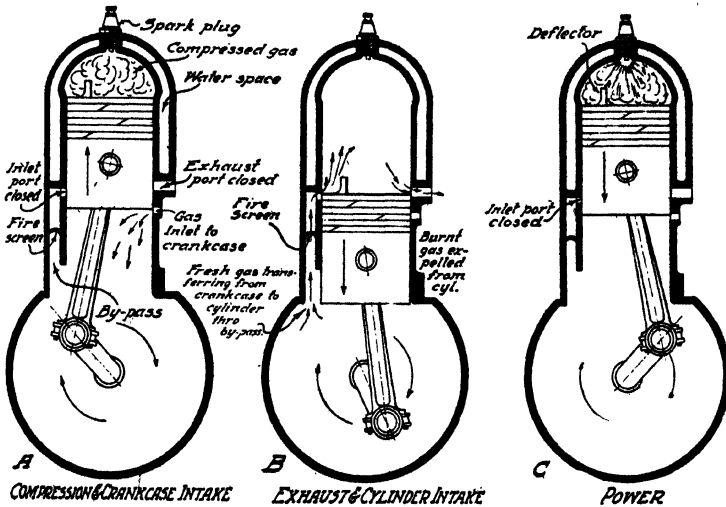

Fig. 18. Diagrams of Operation of Three-Port Two-Cycle Engine
**Two-Stroke-Cycle, or Two-Cycle.** In the two-cycle engine, the same series of operations is performed in two strokes of the piston, or one revolution of the crankshaft; and this is accomplished by the use of crankcase compression and the difference in density of hot and cold gases. Referring to Fig. 18, it will be noticed that instead of the usual poppet valves of the four-cycle engine, the two-cycle engine has
Starting with the piston at the lower dead center and traveling upward, there will be a partial vacuum produced in the crankcase which is air tight. When the skirt of the piston uncovers the inlet port, the vacuum will cause a rush of explosive gas into the crankcase 4, Fig. 18. When the piston has reached the top dead center and